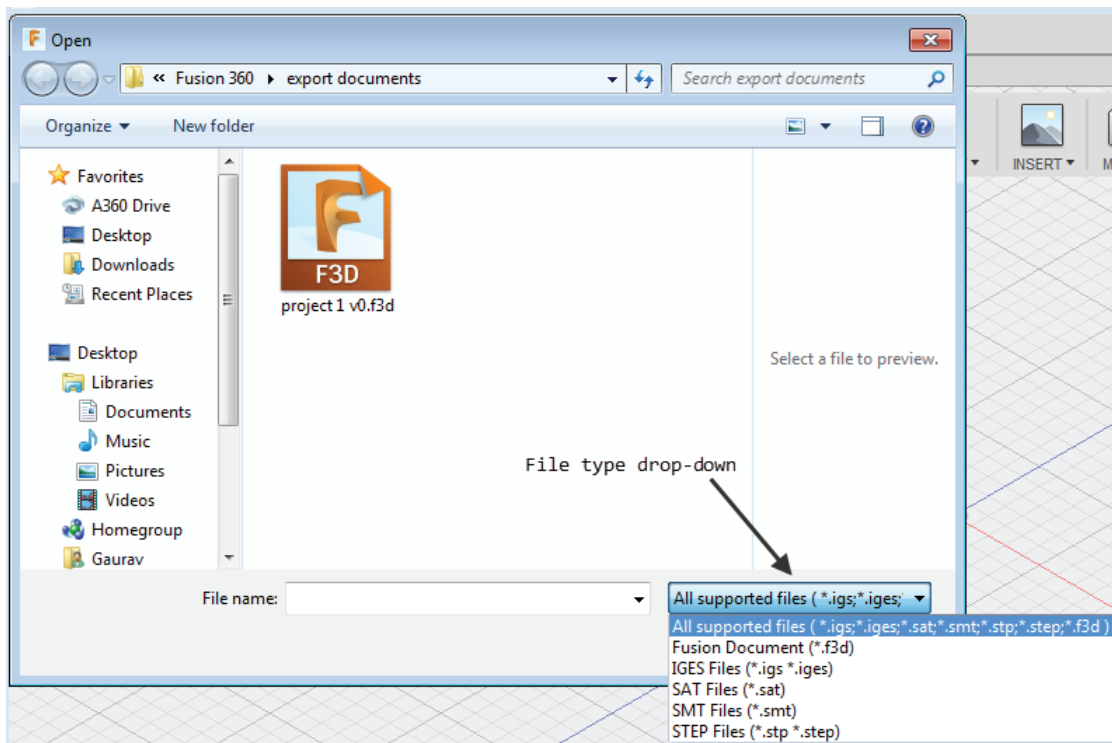

Figure-10. Open dialog box
- Select the desired format from the **File Type** drop-down; refer to Figure-10 and double-click on the file to be imported.